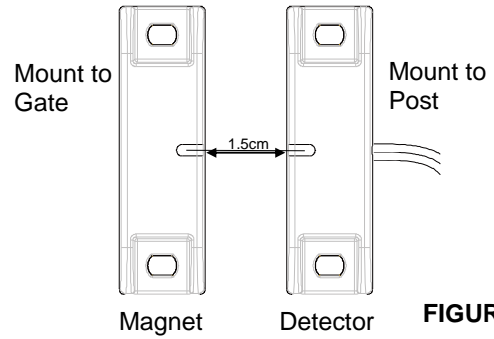

FIGURE 8
2. The arrows on the Magnet and Switch must be aligned. The gap between Magnet and Switch must be less than one half inch (1/2") (FIGURE 8)